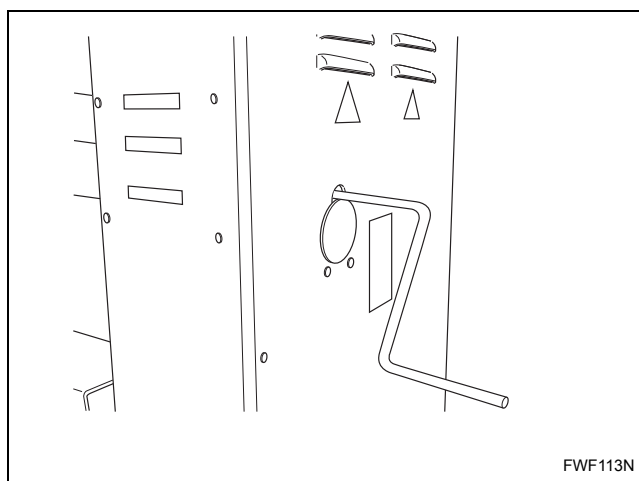

Figure 12
- c. Turn roll with crank handle. Refer to *Figure 12*.